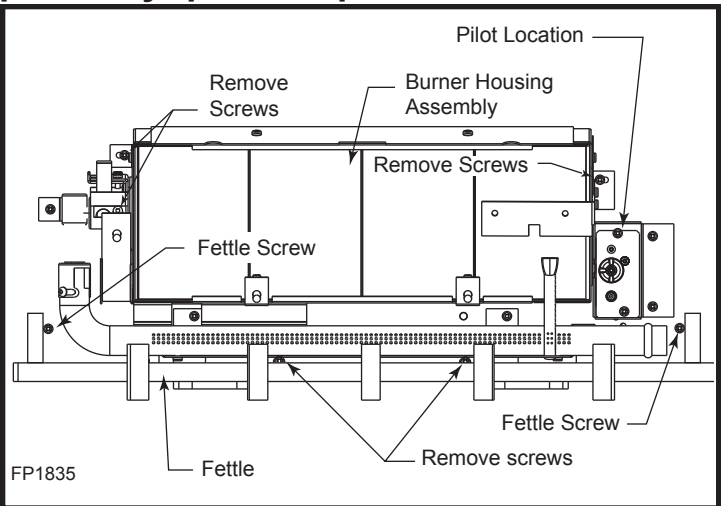

Fig. 50 Remove screws holding burner housing assembly and burner tube assembly.
1. Remove the screws that secure the fettle and the burner tube assembly, located behind the burner tube assembly. Remove the three (3) screws that secure the burner housing assembly to the base pan at the right and left end of the burner housing assembly. (Fig. 50)